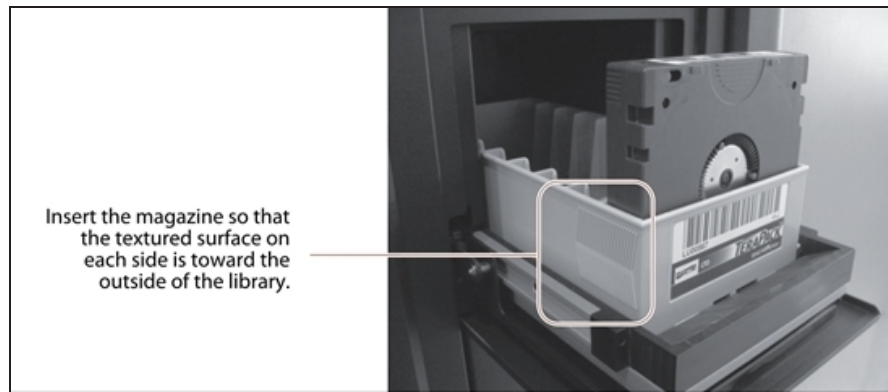

Figure 83 Insert a magazine into the TAP, making sure that it is correctly oriented.
3. Insert the magazine into the tray on the open TAP with the textured surface side toward the outside of the library, as shown in Figure 83 on page 153.
4. Click **Open TAP** to access the exported magazine. Exchange the magazine or any desired media in the TAP then click **Close TAP**. If you exchange a magazine, make sure the new magazine is oriented correctly (see Figure 83 on page 153).